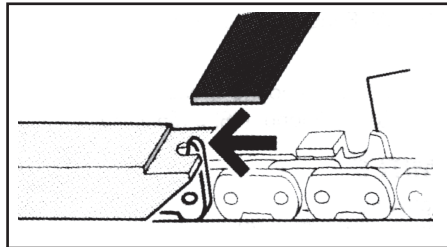

Fig. 23
6. If after sharpening a few times, the depth gauge protrudes from the template, you must reset its level using a flat file (Fig. 23).